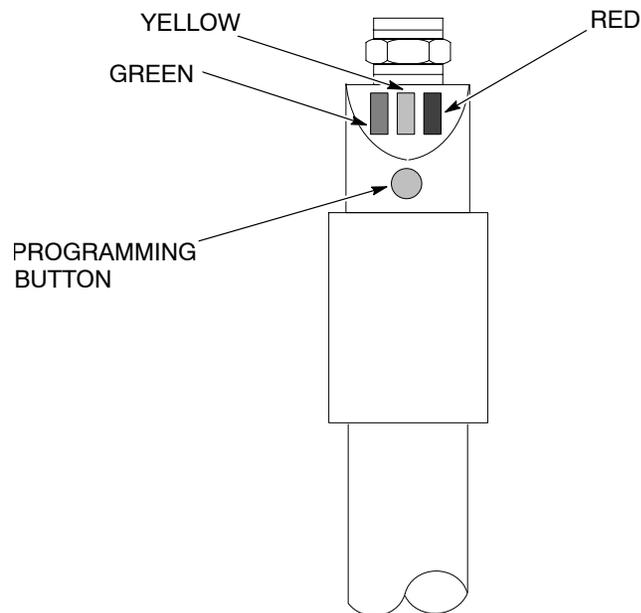

Figure 11 Programming the One Button Level Sensor Probe
3. See Figure 11. Press the programming button until the green LED flashes slowly. When the green LED stops flashing and the yellow LED turns off, the Empty Adjustment is complete.
2. See Figure 11. Press the programming button until the green LED flashes quickly.